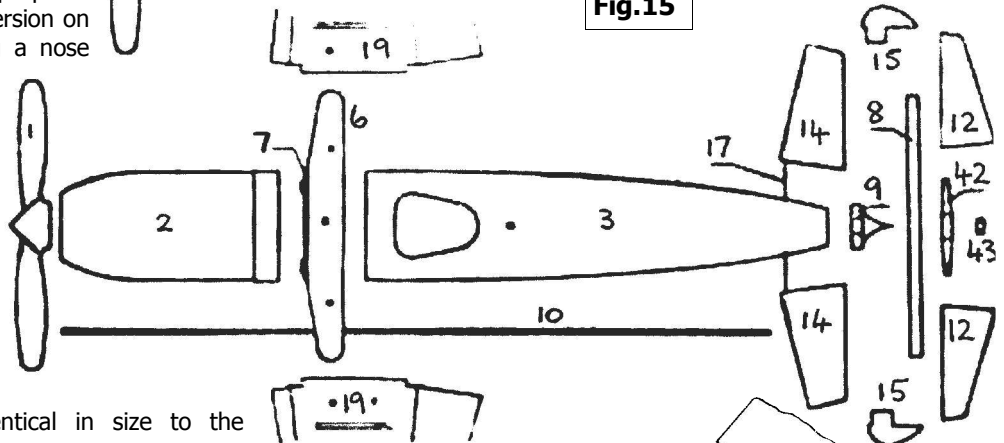

Fig.16
**Stage 5** is the assembly of a low wing (see also Fig 16 though this is from Phase 3 & has different PN's - also in Phase 1 both Spars should be like the #23). The Ribs #40 & #41 push into the U-section Spars #4. The Lower Skin #3 is then added with its folded over edges sliding over the arms of the Spars. The U/C Leg #17 passes through the slot in the Skin & is bolted to the Rib. The Upper Skin is slid on in the same way as the Lower one. The Leading Edge springs into the Front Spar and the Elevator pivots on the Wire #23 which passes through the holes in the lugs on the end of the Ribs which poke through the Spar (similar to the Rudder but with 2 lugs). In order that the Aileron will stay in any position it is moved to, the Wire must be curved to spring it against the Spar. To complete the wing the Wing Tip #7 is pushed in and then the wing pushes onto the Wing Bracket #12 - the Inboard Rib is cut back top & bottom (see Fig 17) to allow the tongues of the Bracket to fit between it and the Wing Skins. All that remains to complete the low wing model is to attach the Wheels #16; each is free to turn on a Long Bolt lock-nutted to a Leg #17.
The empennage is the same as in Phase 1 except that the pivot #42 is used for the Elevators, and there are 2 lugs in the Fin Spar for the Fin Pivot Wire #18. The wings, see Fig 16, are identical to Phase 1. Fig 17 is the Inner Rib full-size.
**No.3? Model Leaflet [Av3-5]** (Fig 24) This is an orange sheet 53½\*36cm folded unequally into six. One side has just the cover right, 18\*24½cm, on it; the other has instructions for the basic low wing jet and propeller models, called respectively Chasseur Météore and 'Réacteur F84 F106' There are clear line drawings for the propeller version and written explanations which also cover the jet variant, including fitting the Nose Cap. Both types of Cockpit Cover, metal & clear, are mentioned. The wing shown (Fig 16) has the Full-span Spar. This Leaflet was with some of David's parts and seems to fit the parts in the No.3 sets Av3-2, Av3-3, & Av3-4.